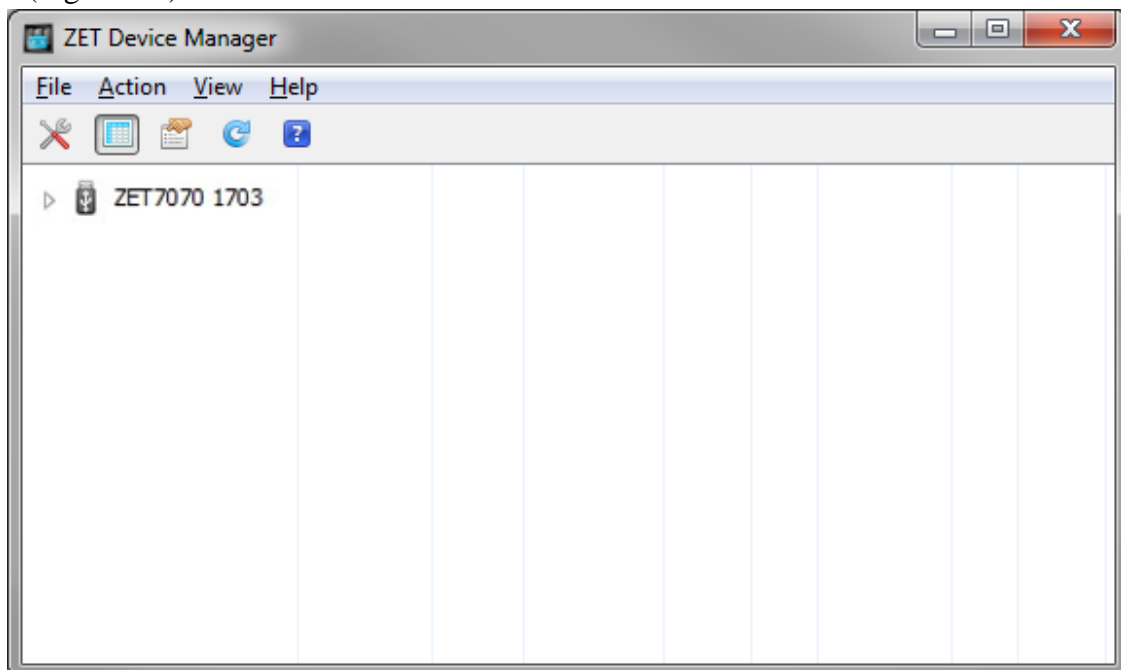

Figure 3.2 ZET 7070 displayed in the program “ZET Device manager”
The window of “Device manager” program displays an ID of the corresponding interface converter (Figure 3.2).
- 1) Change the value of interface converter until the ID of the digital transducer is detected (see Figure 3.2);